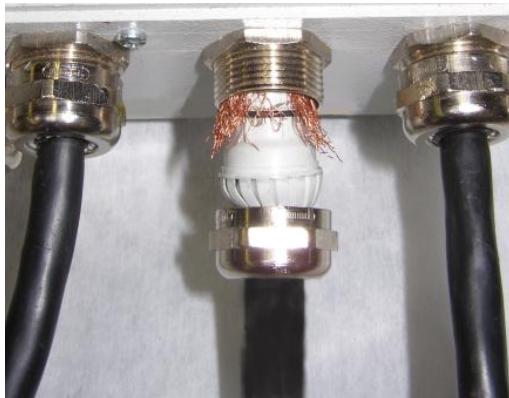

Figure 2: Cable shielding in cable gland
- All screens are to be properly connected under the cable glands *on FCM 2 side only*, as shown in Figure 2.